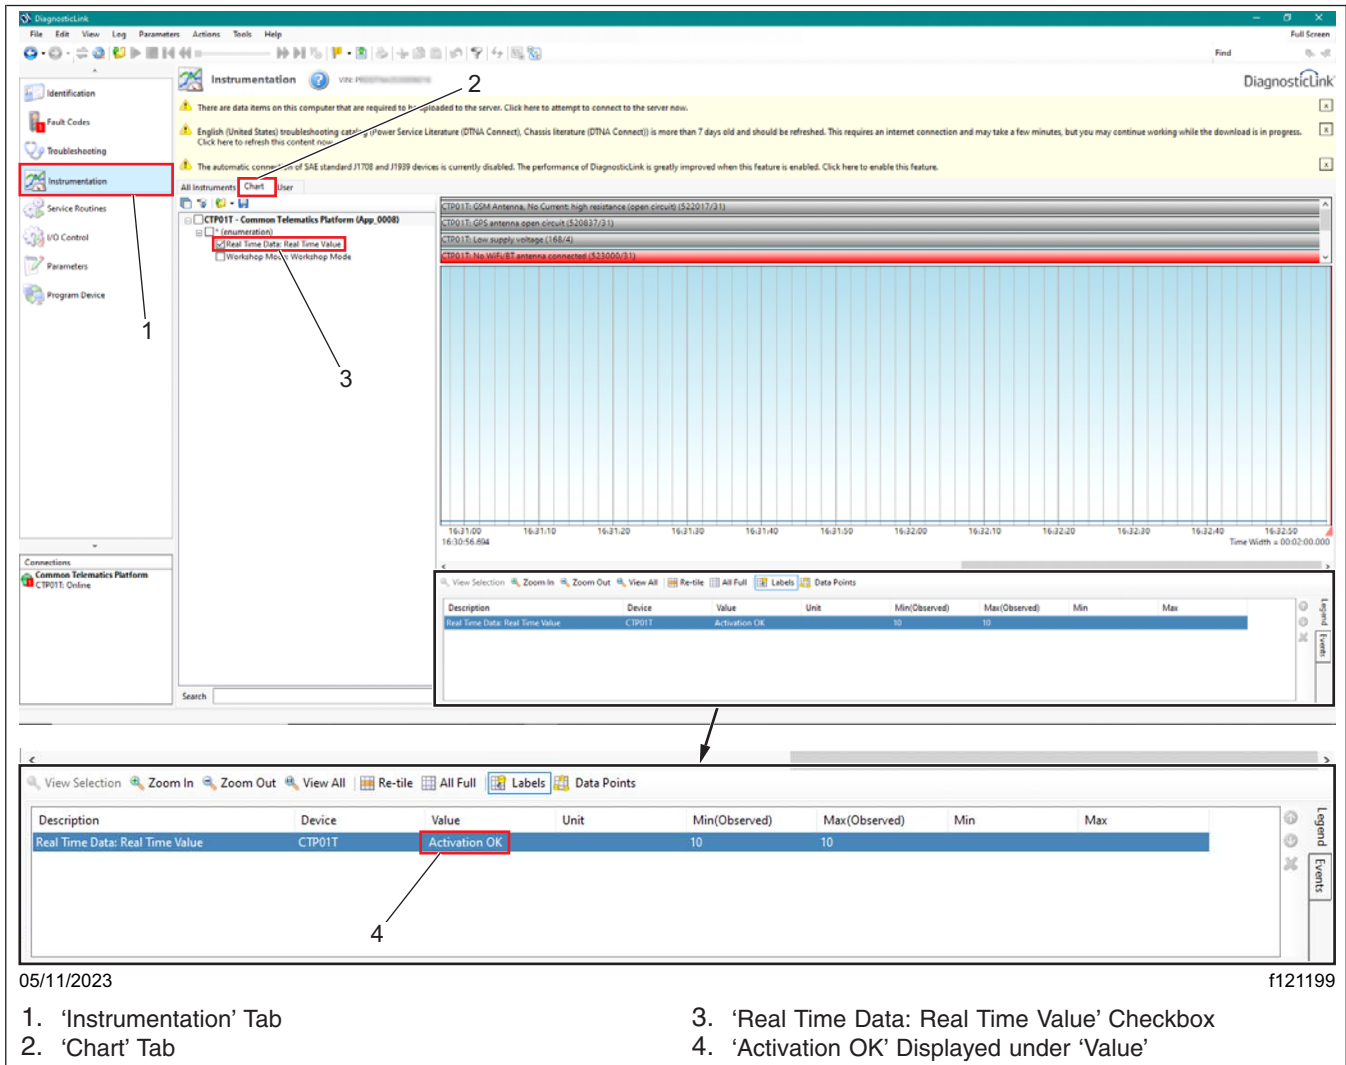

Fig. 35, CTP Software Update Successful
- 19.2 Go to 'Instrumentation' tab, select 'Chart,' then select the 'Real Time Data: Real Time Value' checkbox. Verify 'Activation OK' is displayed under 'Value,' as shown in **Fig. 35**.
19.4 Wait for an additional 10 minutes for the CTP to re-attempt establishing the network connection. If the CTP does not connect to the network, and if 'Activation OK' is not displayed under 'Value,' as shown in Fig. 35, even after 10 minutes, go to the **CTP Replacement** procedure on page 25.